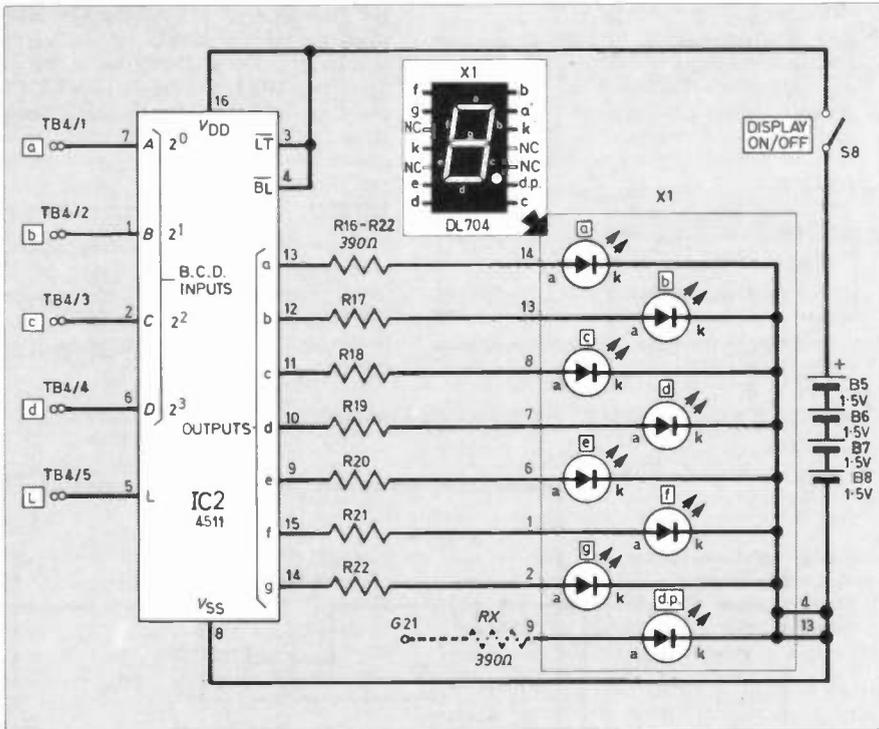

Fig. 8.1. The circuit diagram for the DISPLAY MODULE.
The complete circuit diagram for the module is shown in Fig.8.1. The components have been annotated such that they follow on from all other permanently installed *Minilab* components. The annotations of the experimental components to be plugged into the Verobloc will in turn follow on from these.
- 8.2. If in Fig 8.1 the inputs to pins 7 and 6 were +6V, and to pins 1 and 2 were 0V (other inputs as shown), what would be the outputs from pins 9 to 15?